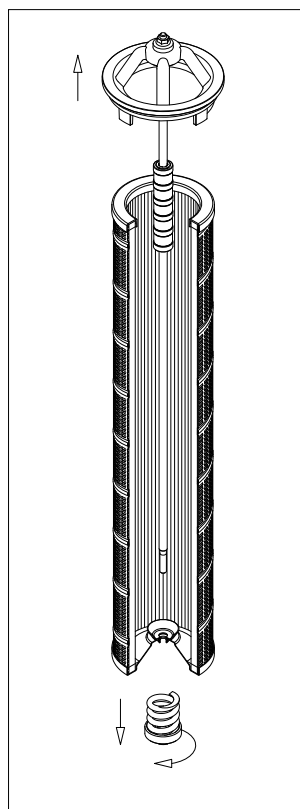

fig. 25
- (Fig. 25) Unscrew the bypass nut at the bottom of the internal filter and pull the insert-tie rod assembly out